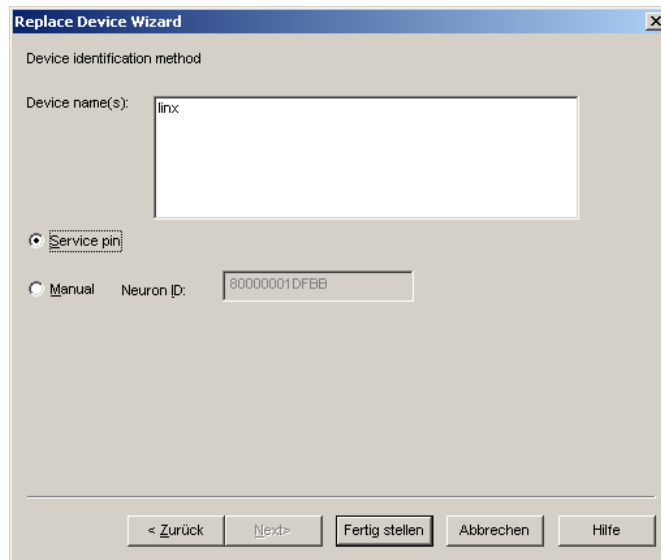

Figure 97: Select Service Pin and click Finish.
- Select the **Service pin** method and click on **Finish** as shown in Figure 97.